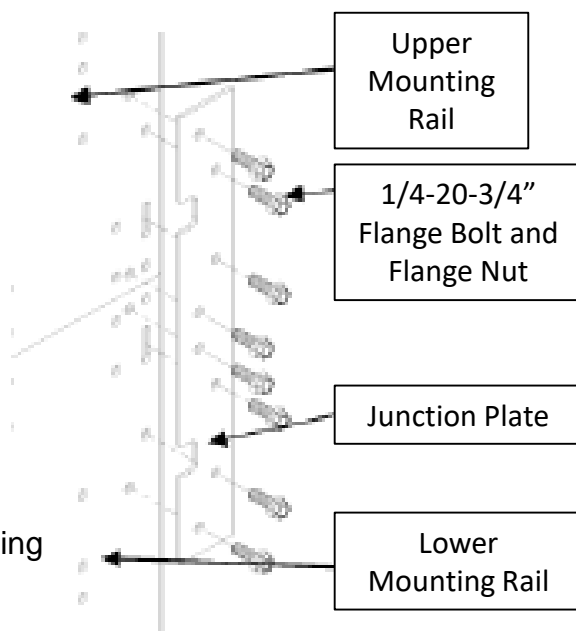

Figure 6. Attaching Upper Mounting Rail to Lower Mounting Rail.
4. Attach upper Mounting Rails to the lower Mounting Rails using the provided 1/4-20x3/4 bolts and 1/4-20 Flange Nuts and are secured using the junction plates DR4261. Ensure Upper Mounting Rails maintain the same spacing all the way to the top (**SEE FIGURE 6**).